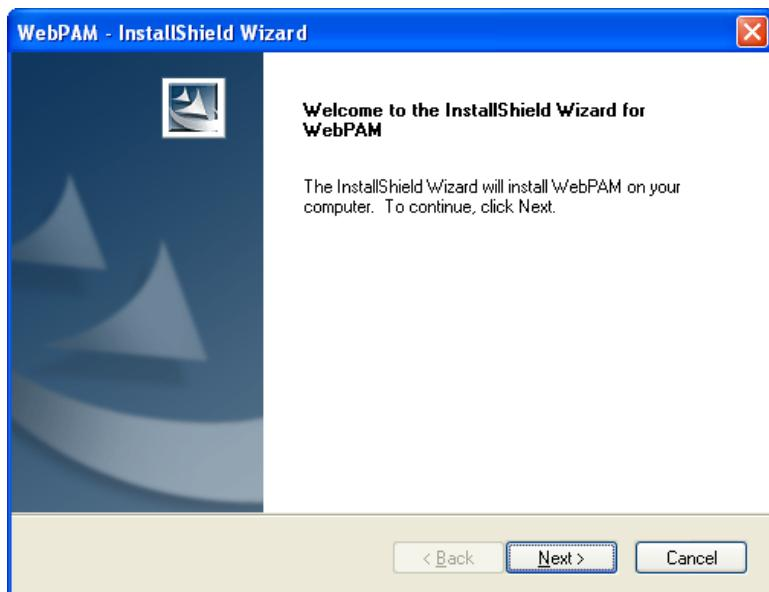

Figure 7-31: Welcome Screen
Step 9: The welcome screen in **Figure 7-31** appears.